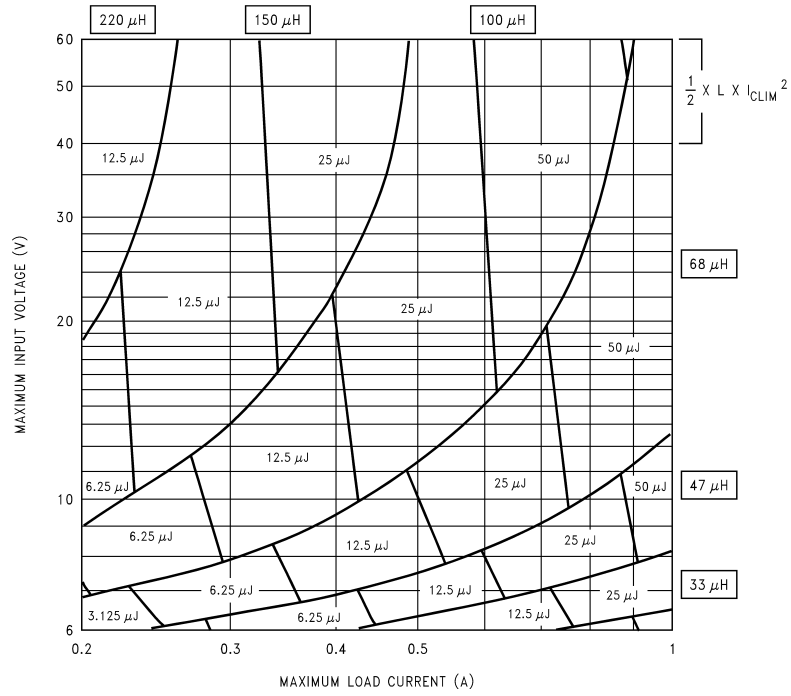
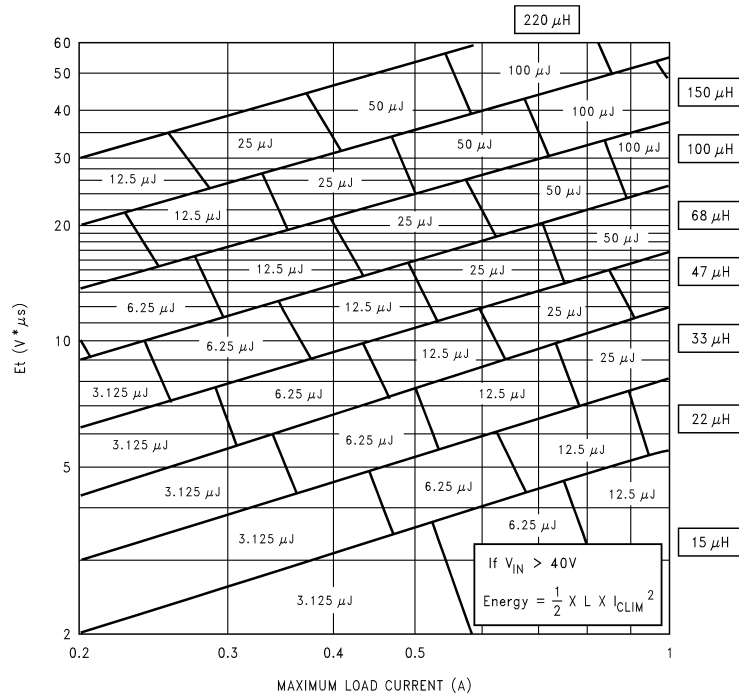

FIGURE 2. LM2591HV-3.3
FIGURE 4. LM2591HV-ADJ
Application Note AN-1197 titled "Selecting Inductors for Buck Converters" provides detailed information on this topic. For a quick-start the designer may refer to the nomographs provided in *Figure 2* to *Figure 4*. To widen the choice of the Designer to a more general selection of available inductors, the nomographs provide the required inductance and also the energy in the core expressed in microjoules (μJ), as an alternative to just prescribing custom parts. The following points need to be highlighted:
5. *Figure 4* shows the inductor selection curves for the Adjustable version. The y-axis is 'Et', in $\text{V}\mu\text{secs}$. It is the applied volts across the inductor during the ON time of the switch ($V_{\text{IN}} - V_{\text{SAT}} - V_{\text{OUT}}$) multiplied by the time for which the switch is on in μsecs . See *Example 3* below.
1. Since input voltage is less than 40V, a first pass inductor selection is based upon Inductance and rated max load current. We choose an inductor with the Inductance value indicated by the nomograph *Figure 4* and a current rating equal to the maximum load. But we first need to calculate Et for the given application. The Duty cycle is
Therefore, looking at *Figure 2* we quick-select a 100μH/1A inductor (designed for 150 kHz operation) for this application.
2. We should confirm that it is rated to handle 100 μJ (see *Figure 4*) by the procedure shown in AN-1197 and that the losses are acceptable. (If the DC Input voltage had been greater than 40V we would need to consider e_{CLIM} as in Example 2 above).